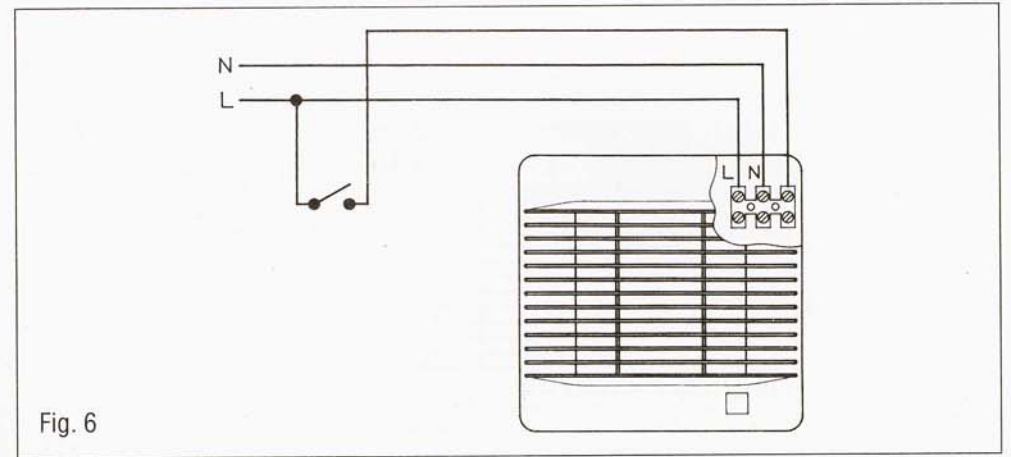
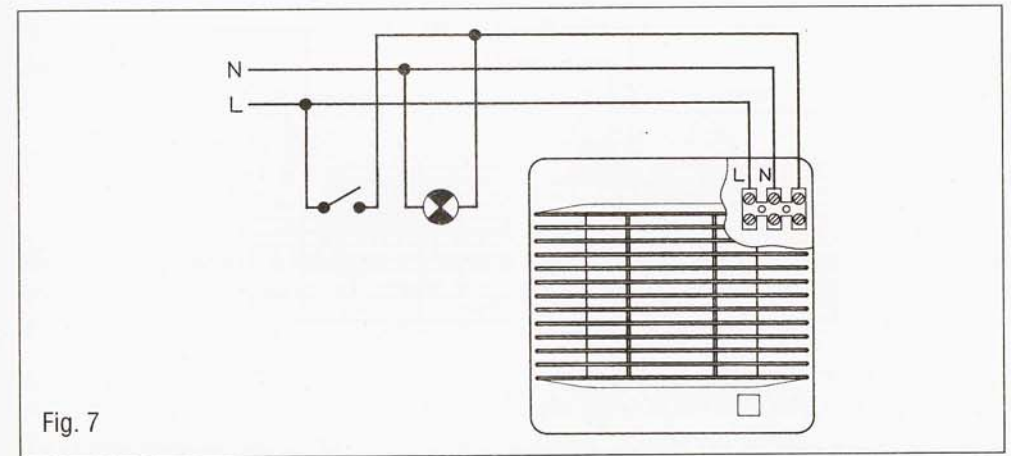

Fig. 6
Fig. 7
Models fitted with fixed not adjustable timer (T and CT) or adjustable (CR). The timer enables the extractor to continue running during the time delay, after the switch has been switched off (Fig. 6). The diagram on Fig. 7 shows how to connect a unit fitted with timer using the light switch.